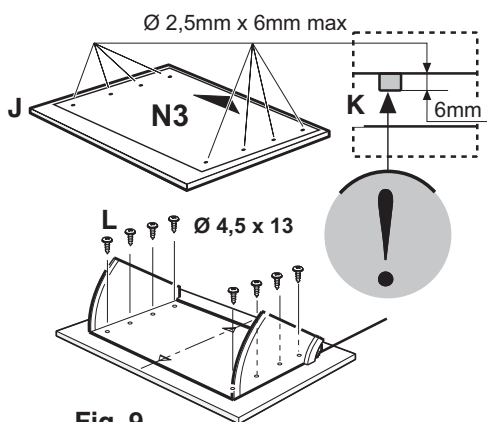

Fig. 9
- Apply the drill holes diagram **N3** on the rear of the furniture door (**Fig. 9, J**-the arrow on the diagram should face the upper border of the furniture door), perform blind holes as indicated (**K-Fig. 9**).
- Place the visor over the furniture door and affix with 8 screws (**Fig. 9, L**).